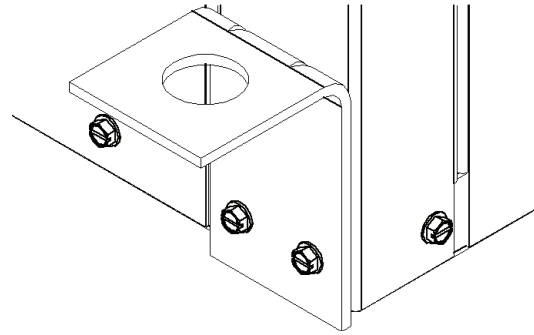

Fig. 5 — Bracket Mounting
2. Mount four brackets to unit corner post using the bolts provided in the kit as shown in Fig. 5.